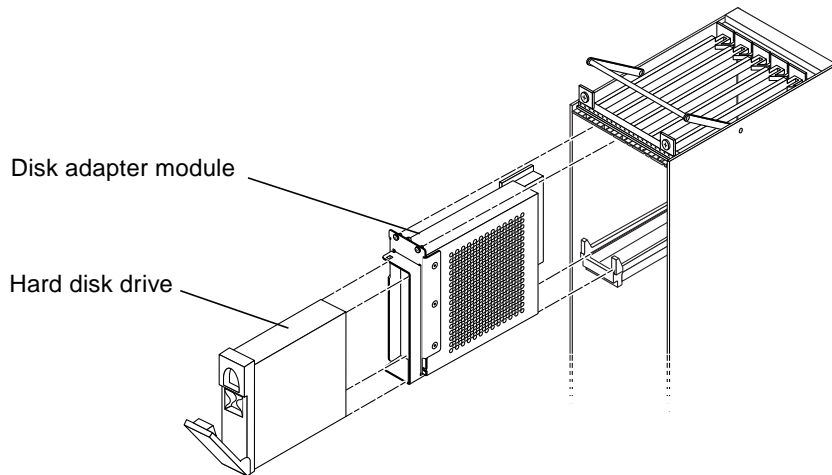

FIGURE 11-2 Removing the Disk Adapter Module
4. **Pull the disk adapter module out of the Netra ct 400 server (FIGURE 11-2).**
- 3. Insert the disk adapter module, with the connector facing the left rear side of the server (FIGURE 11-2).**